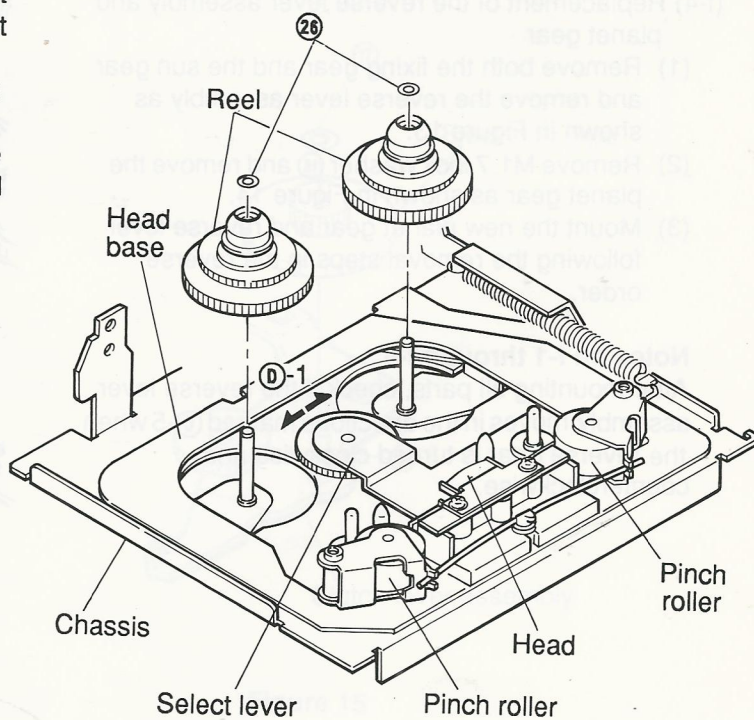

Figure 19
- (1) Remove M1.7 lock washers ②⑥ (Refer to figure 19).
- (2) Move the select lever in the direction marked ①-1 in the Figure and remove the reel by gripping the reel gear as shown in Figure 19.
- (3) After replacement, mount the new reels following the removal steps in the reverse order.
- (4) After mounting, check the tape speed and the wow and flutter with test tape MTT-III.